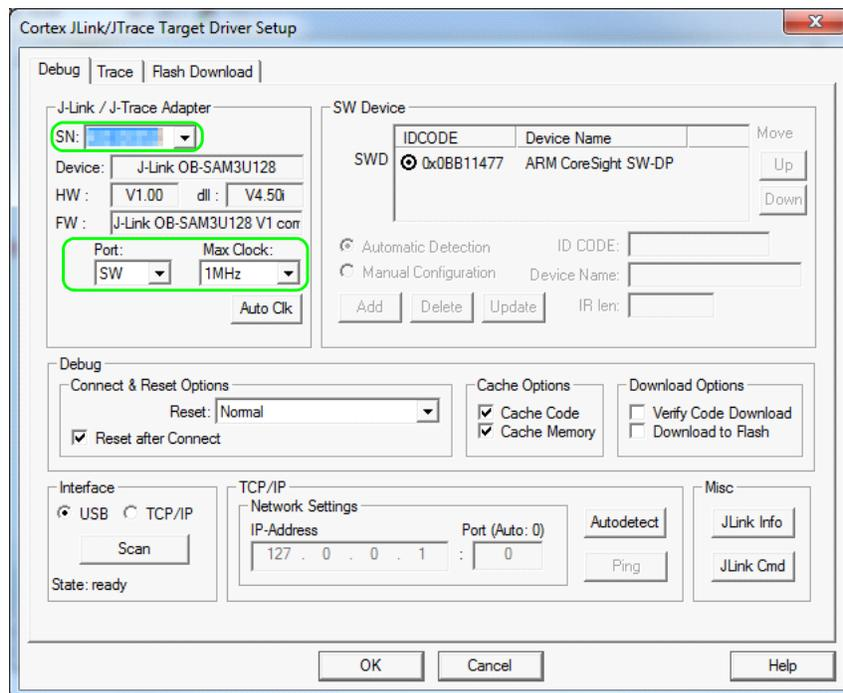

Figure 38 Debug settings
5. Click the **Debug** tab. Set Port to **SW** and Max Clock to **1 MHz**. Make sure that **SN** and **IDCODE** are populated as seen in **Figure 38** and click **OK**.